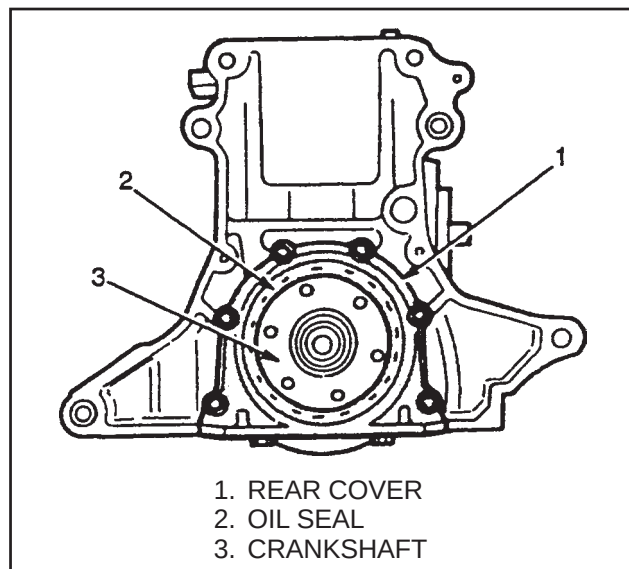

FIGURE 31. REAR COVER
6. Install the rear cover and the gasket. See FIGURE 31. Make sure the dowel pin is installed. Tighten the capscrews to 8 to 12 N.m (80 to 120 kgf·cm). Cut the part of the gasket that extends past the bottom of the cylinder block.